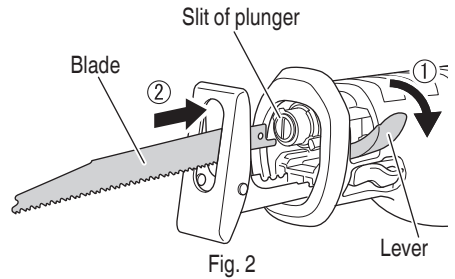
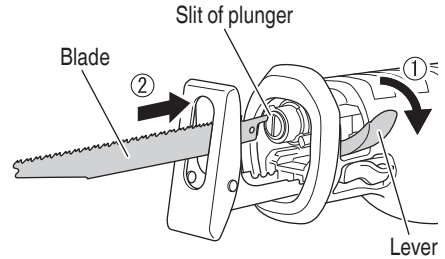

Fig. 2
Fig. 3
- (1) Turn off the switch and disconnect the plug from the receptacle.
- (2) Pivot the lever to open the blade clamp.
- (3) Insert the saw blade all the way into the small slit of the plunger tip with the lever pivoting. You can mount this blade either in the upward or downward direction. (Fig. 2, Fig. 3)